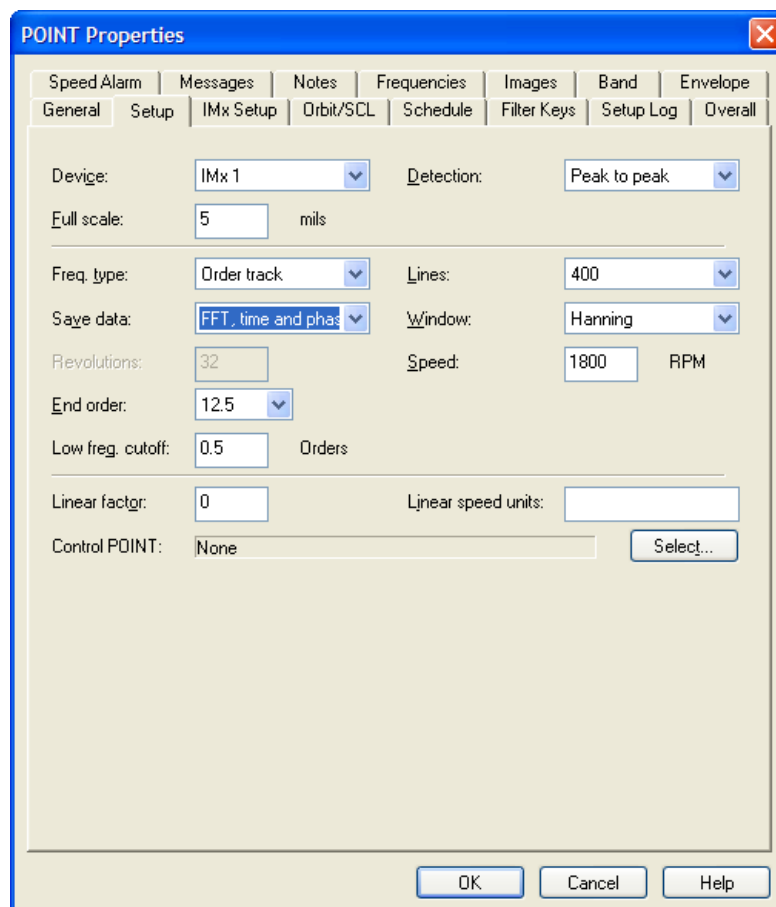

Figure 4. Setup tab on SCL Point
- It is customary to select **FFT, time and phase** when there is a given speed reference. If this is not the case, just select **FFT and time** and then set the speed value manually. [Figure 4]